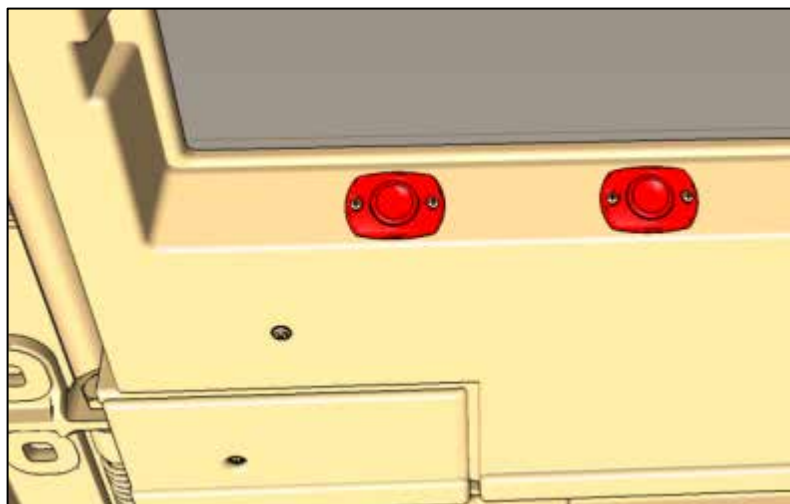

Figure 12
11. Remove "Next Stop" and "Reading Light" buttons (Figure 12)